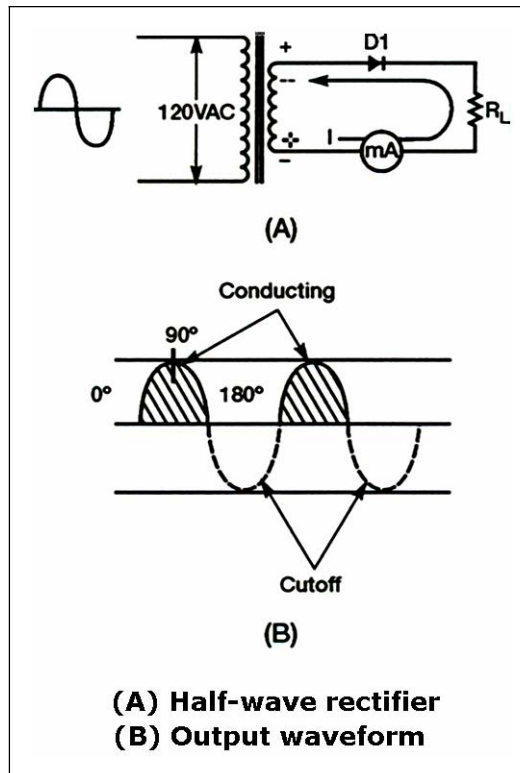

Figure 4-3. Simple Half-wave Rectifier
4-8. Since a silicon diode will pass current in only one direction, it is ideally suited for converting AC to DC. When AC voltage is applied to a diode, the diode conducts **ONLY ON THE POSITIVE ALTERNATION OF VOLTAGE**; that is, when the anode of the diode is positive in respect to the cathode. This simplest type of rectifier is the half-wave rectifier. Figure 4-3, view (A), shows that the half-wave rectifier uses only one diode. During the positive alternation of input voltage, the sine wave applied to the diode makes the anode positive with respect to the cathode. The diode then conducts, and current (I) flows from the negative supply lead (the secondary of the transformer), through the milliammeter, through the diode, and to the positive supply lead. As indicated by the shaded area of the output waveform in view (B), this current exists during the entire period
4-9. During the negative alternation of input voltage (dotted polarity signs), the anode is driven negative and the diode cannot conduct. When conditions such as these exist, the diode is in cutoff and remains in cutoff for 180 degrees. During this time, no current flows in the circuit. The circuit current therefore has the appearance of a series of positive pulses (see shaded areas on the waveform in Figure 4-3, view (B)). Notice that although the current is in the form of pulses, the current always flows in the same direction. Current that flows in pulses in the same direction is called PULSATING DC. The diode has thereby RECTIFIED the AC input voltage.